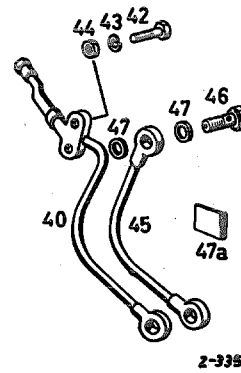

Fig. 42 — 5/4
6. Install the brake wheel cylinder (14) together with anchor pin (7) into the brake anchor plate (1) and fasten by means of the three fixing screws (5) and the hexagon nut (2). Use new lock washers (see Fig. 42 — 5/3). Make sure that the fixing screws are tightened evenly.
7. Attach the brake line (45) between the two brake wheel cylinders by means of the two hollow screws (46), using **new copper gaskets (47)** A 10 × 14 DIN 7603 (Fig. 42 — 5/4). Insert the rubber pad (1) which serves to damp the vibrations of the brake lines (see Fig. 42 — 5/2).
8. Attach the lower part of the brake line (40) to the brake wheel cylinder by means of a hollow screw (46) and a new copper gasket, and the upper part to the brake anchor plate by means of two hexagon screws and hexagon nuts and lock washers.